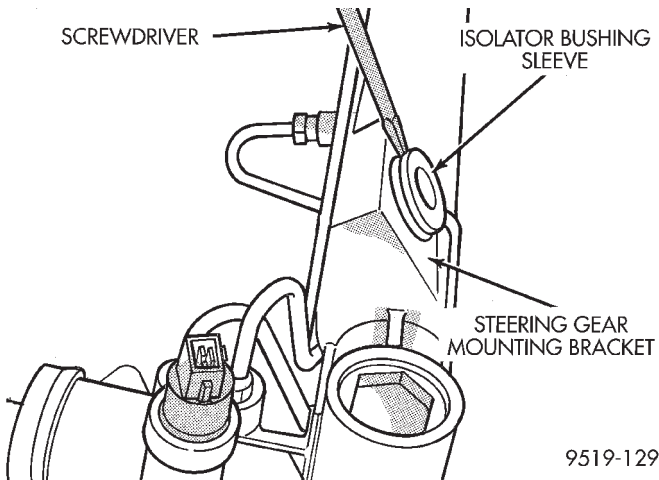

Fig. 22 Mounting Bolt Isolator Sleeve Removal
The steering gear mounting bolt isolators (Fig. 22) are a serviceable component of the steering gear assembly. Both isolator bushing are serviced using the same procedure listed below but only the rear mounting bushing is shown.
(1) Using a screwdriver, pry the sleeve out of the mounting bolt isolator (Fig. 22).
(2) Pry the mounting bolt isolator bushing from the steering gear mounting bracket.